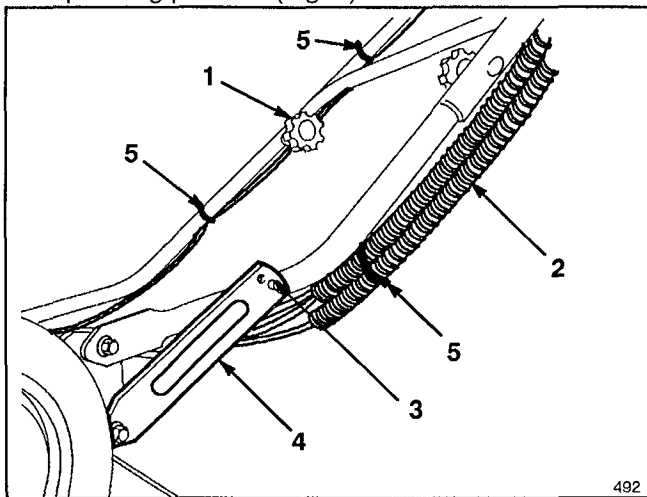

Figure 1
1. Align handle and tighten handle knobs (Fig. 1). Move handle latches slightly outward so they will not be in the way when pivoting the handle backward into the operating position (Fig. 1).
2. Pivot handle backward. Move handle latches inward while snapping handle stud into center hole of handle latch (Fig. 1). If a handle latch does not fit tightly against the handle tube, remove latch from handle stud, bend the latch inward, and reattach to handle stud. Repeat as necessary to ensure a tight fit between latch and handle.
3. Ensure control cables (Fig. 1) are to the rear and inside of handles. Secure cable to right handle with cable ties. Tighten handle knobs securely.
Note: If handle height is not satisfactory, adjust by placing handle stud (Fig. 1) into a different hole.